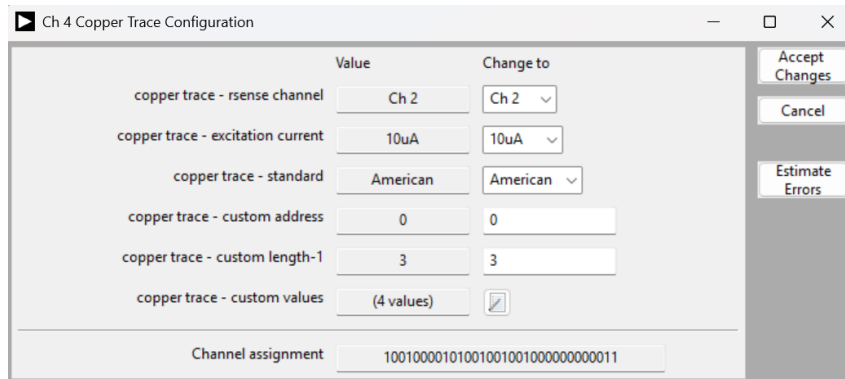

Figure 3. Copper Trace Configuration Window
4. To configure CH4, click the notepad icon in the **Edit** column of CH4; a dialog window is displayed as shown in Figure 3.